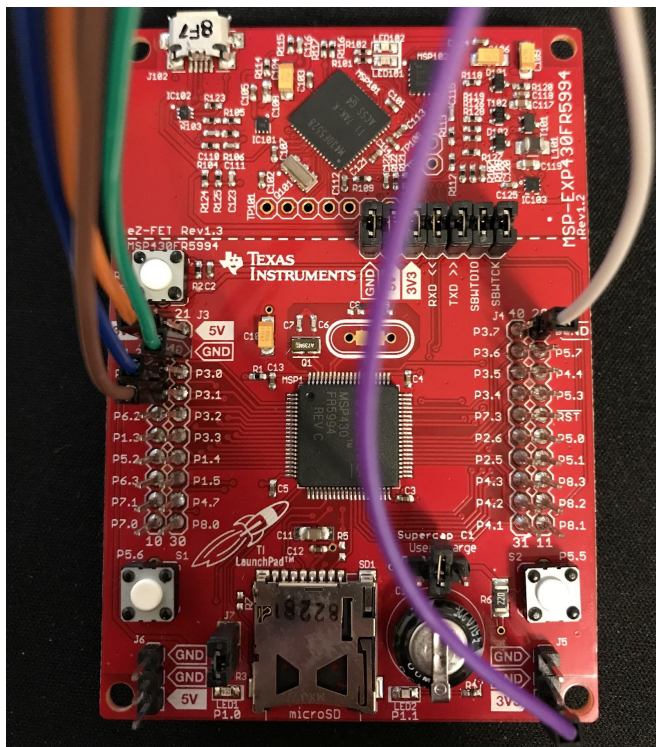

Figure 4: LaunchPad jumper wire connections
- Now connect the MSP430 to the SmartMesh IP mote (mote has to be in “slave” mode not “master” mode) using jumper wires as shown in Table 1 and in Figures 4 and 5.